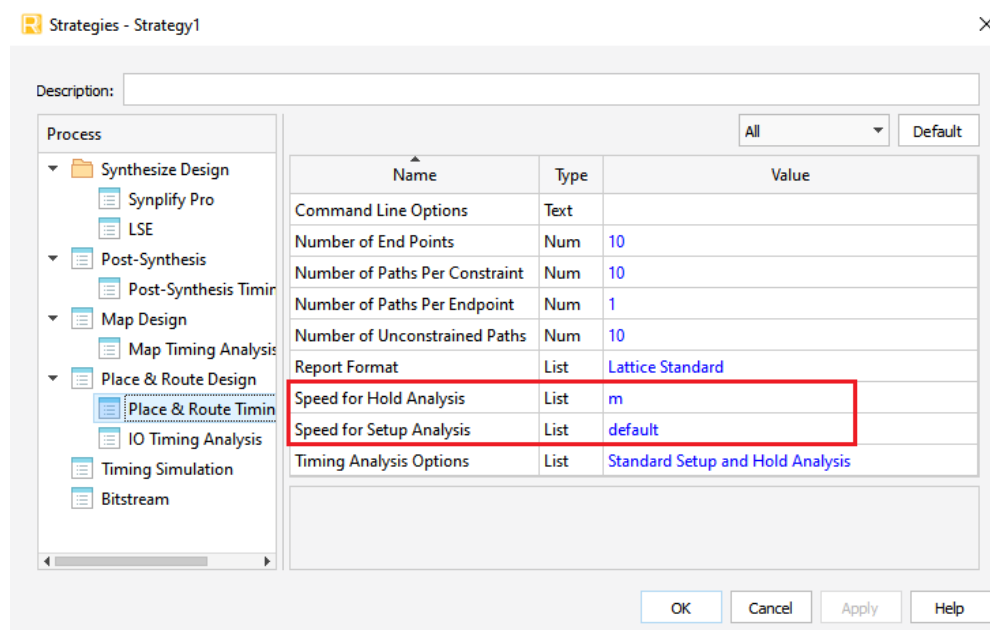

Figure C.93. PAR Timing Analysis Setting for Node System Bit File Generation
12. Select **Place and Route Timing Analysis** and only apply the settings shown in Figure C.93.